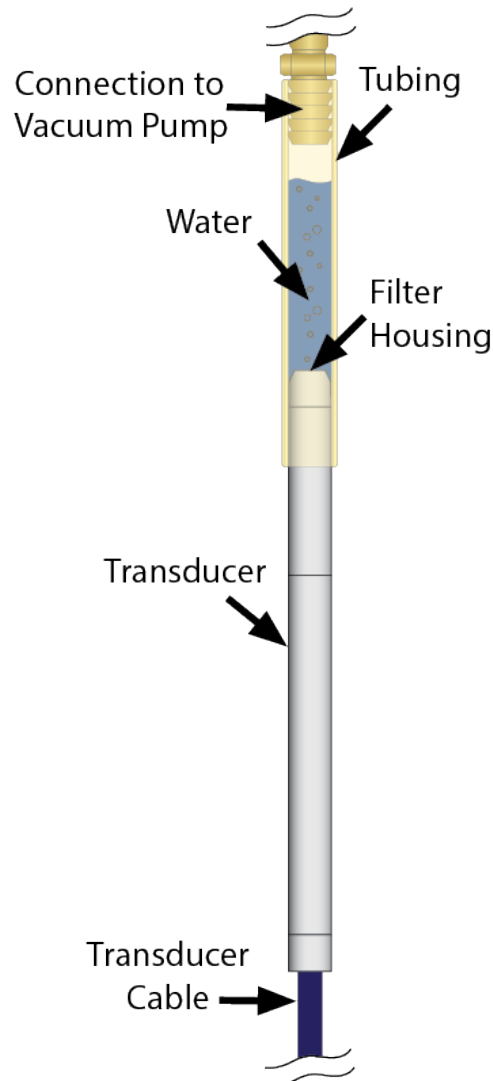

Figure 2 - 4500C Saturation
- 1) Attach the tube to the transducer as shown in Figure 2.